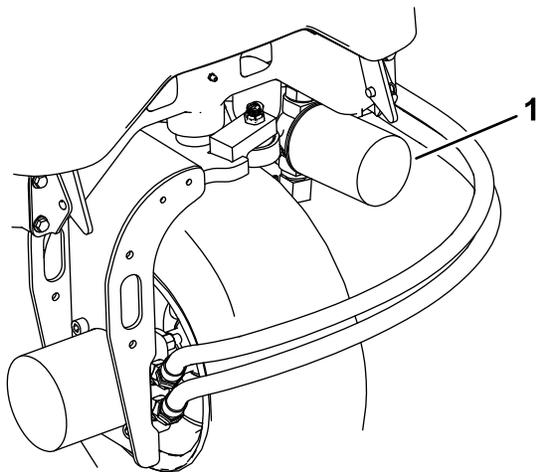

Figure 60
3. Clean around the filter-mounting area, place a drain pan under the filter, and remove the filter (Figure 60).
2. Disconnect the hydraulic line or remove the hydraulic filter and let the hydraulic fluid flow into a drain pan (Figure 60 and Figure 61).